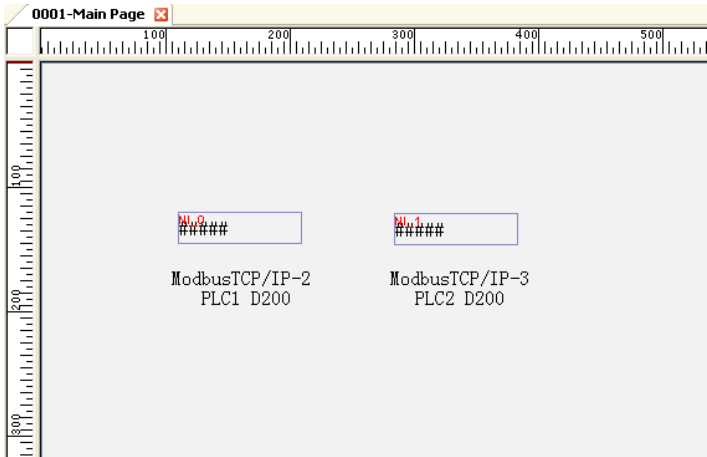

Figure 19
- 4) After the setting is done, it is possible to access different PLC data, as shown in figure 19.